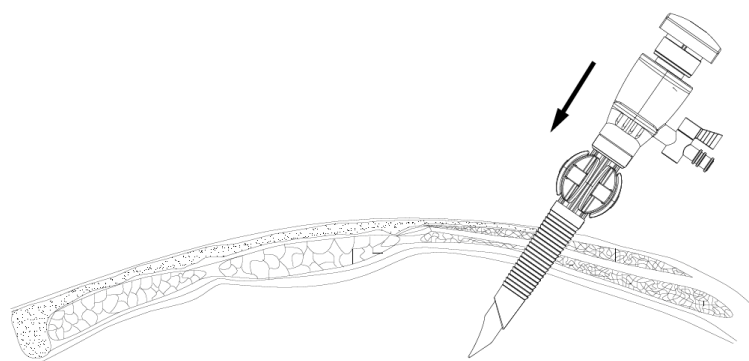

Figure 1
6. Ensure there is no blood vessel or grume existing in incision area. Insert the obturator and trocar according to the texture level of tissue through the incision by applying continuous downward pressure until the body cavity has been completely penetrated (Figure 1).